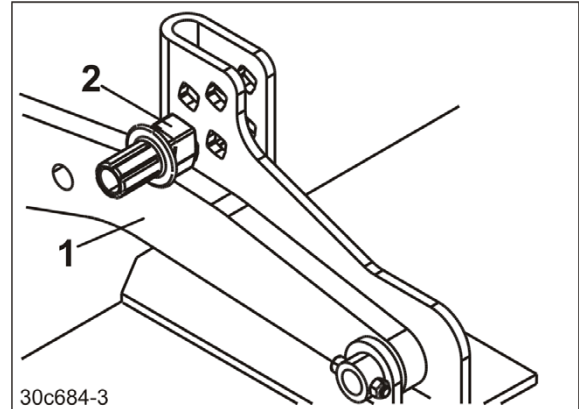

Fig. 105
- The carrying arms (Fig. 105/1) are supported by the depth setting pins (Fig. 105/2).